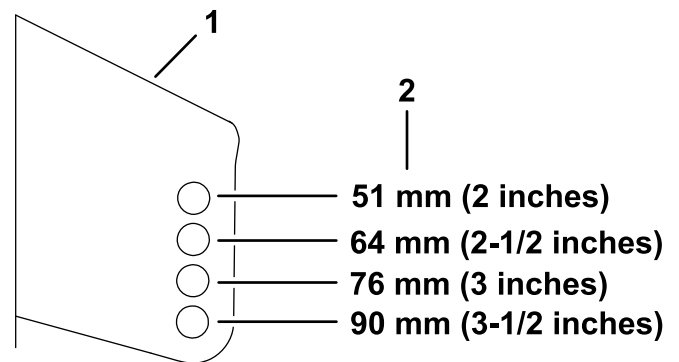

Figure 30
5. Place the rollers in 1 of the positions shown in Figure 30.